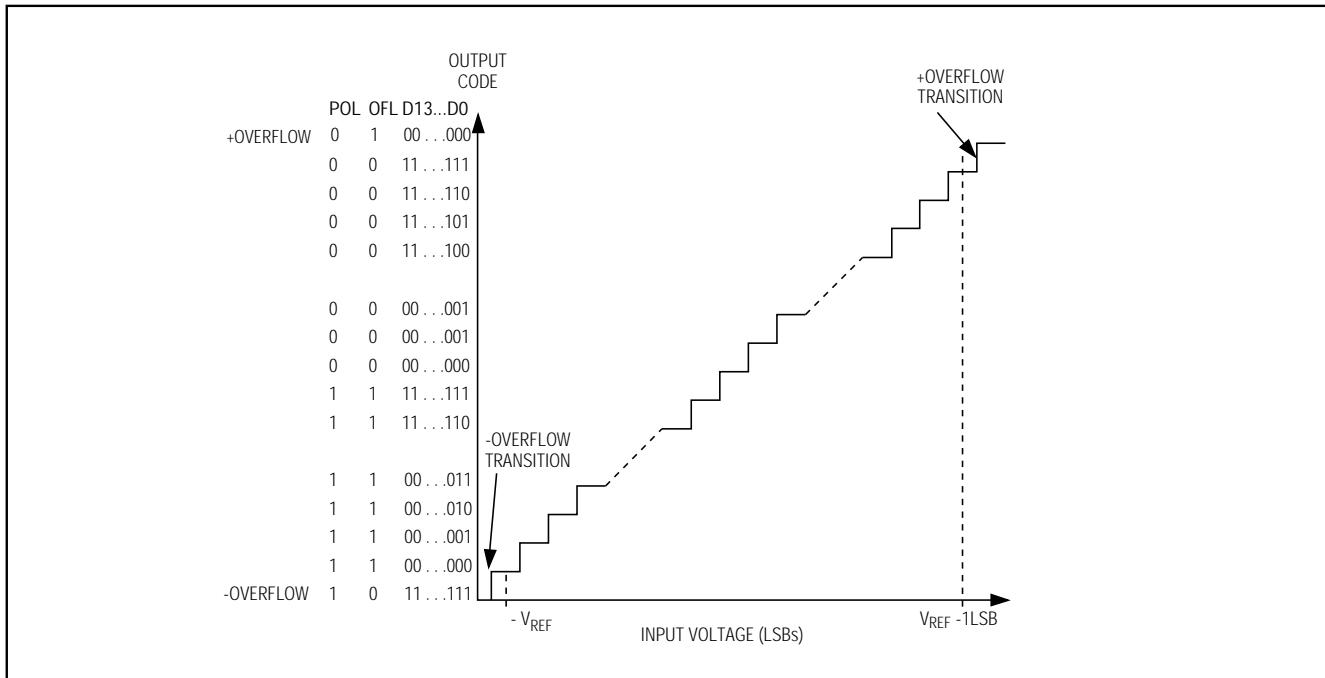

Figure 4. Differential Transfer Function
The output data from the MAX110/MAX111 is arranged in two's-complement format (Figures 4, 5). The sign bit (POL) is shifted out first, followed by the overrange bit (OR), and the 14 data bits (MSB first) (see Figure 6). The MAX110 operates from  $\pm 5$ V power supplies and converts low-frequency analog signals in the  $\pm 3$ V range when using the maximum reference voltage of  $V_{REF} = 3$ V ( $V_{REF} = V_{REF+} - V_{REF-}$ ). Within the  $\pm 3$ V input range, greater accuracy is obtained within  $\pm 2.5$ V (see *Electrical Characteristics* for details). Note that a negative input voltage is defined as  $V_{IN-} > V_{IN+}$ . For the MAX110, the absolute voltage at any analog input pin must remain within the  $(V_{SS} + 2.25)$ V to  $(V_{DD} - 2.25)$ V range.